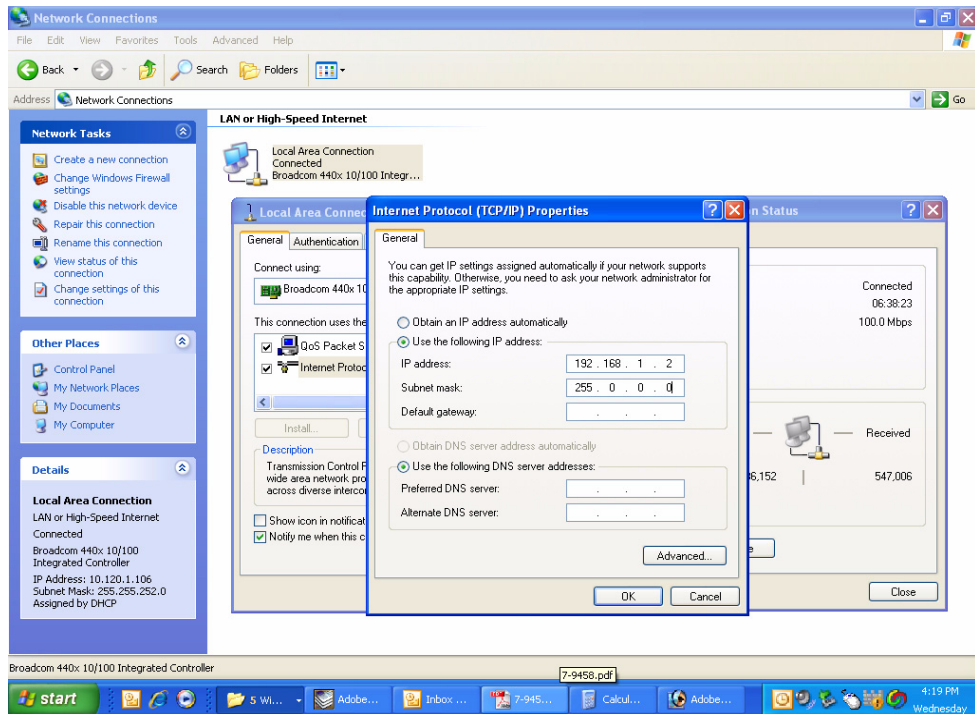

Figure B7: Enter the new IP Address and Subnet mask Values.
- 8) Enter the new IP address and subnet mask values as shown in **Figure B7**. To interface your computer to the signal booster use an IP address of “192.168.1.2” and a subnet mask of “ 255.255.255.0”.